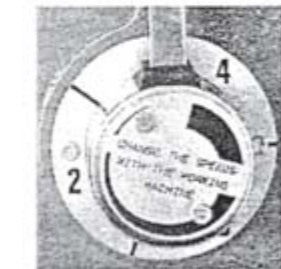

Fig. 7
IMPORTANT: Make sure that the speed control lever is on the lowest speed setting (1) prior to adding ingredients (see fig. 7).